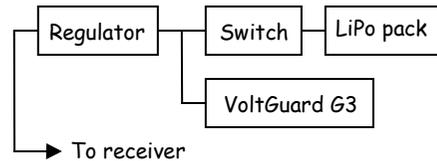

Fig.1 Using G3 with Li-Poly packs and regulator.
**Li-Poly packs:** Connect the G3 before the voltage regulator (Fig. 1) Configure the G3 for 2S or 3S pack as applicable.